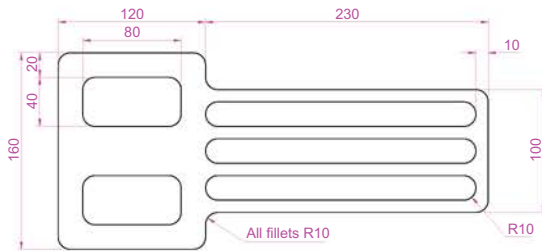

Fig. 6.42 Exercise 1
1. Construct the drawing Fig. 6.42. All parts are plines of width = 0.7 with corners filleted R10. The long strips have been constructed using **Circle**, **Polyline**, **Trim** and **Polyline Edit**. Construct one strip and then copy it using **Copy**.